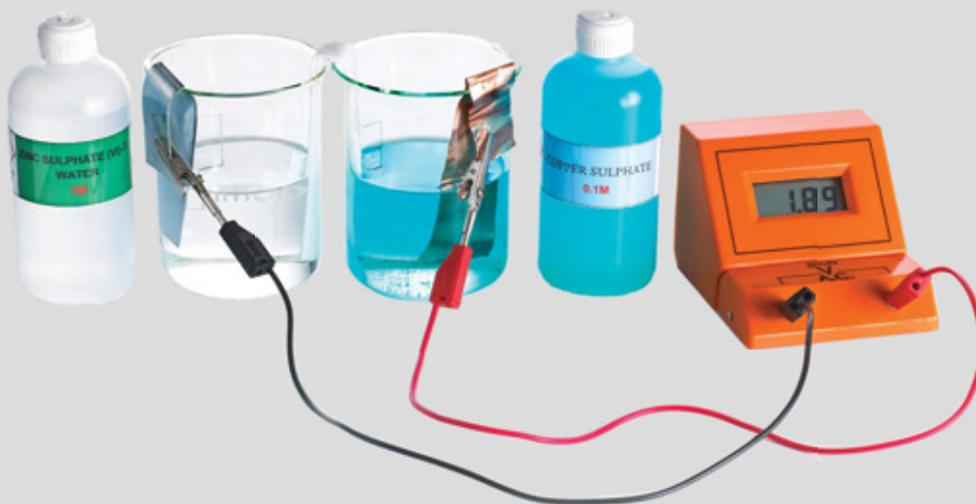

FIGURE 1 The experimental set-up of a galvanic cell
- 2 Immerse one piece of the filter paper in the potassium nitrate solution. Using the plastic tweezers, remove it from the solution and place it as a bridge between two of the half-cells (see Figure 1 on the previous page).